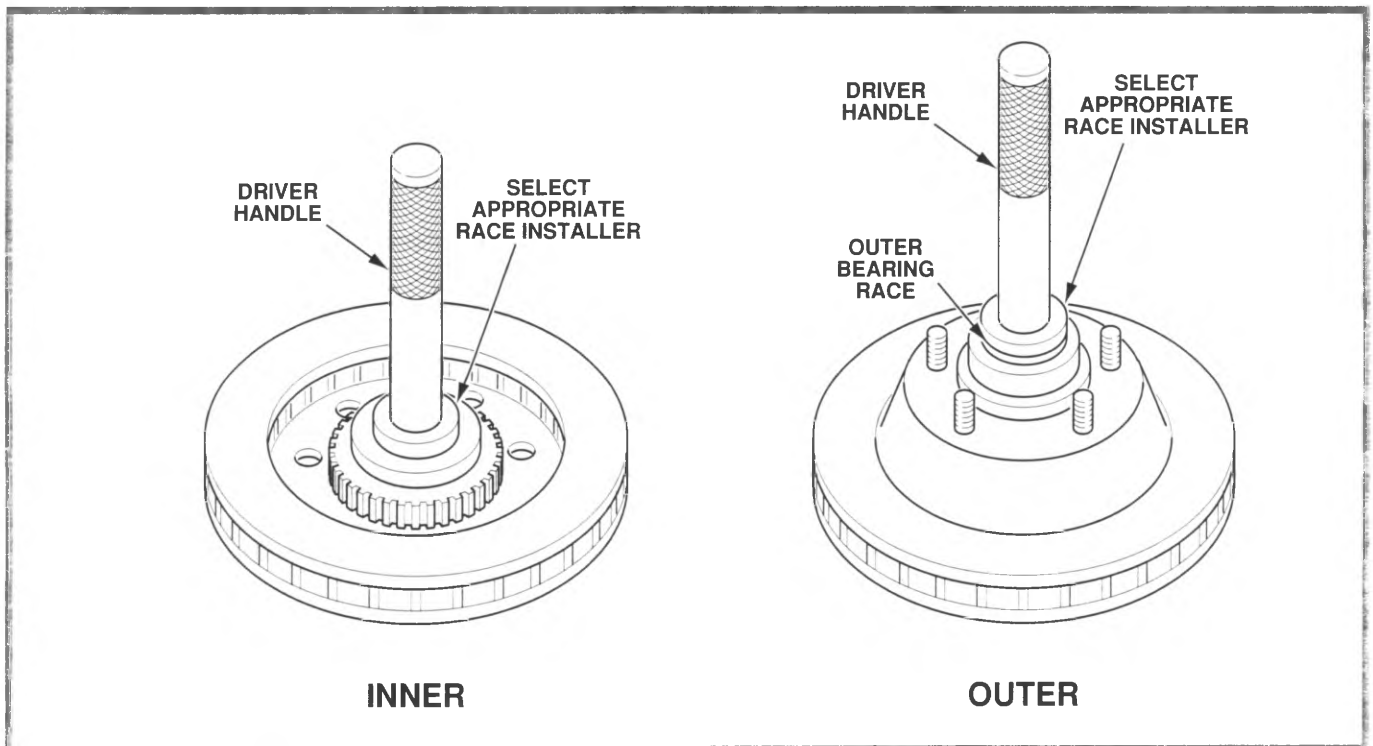

Figure 6-23, Installing Inner and Outer Bearing Outer Race
8. Drive or press the new races into the hub (figure 6-23).